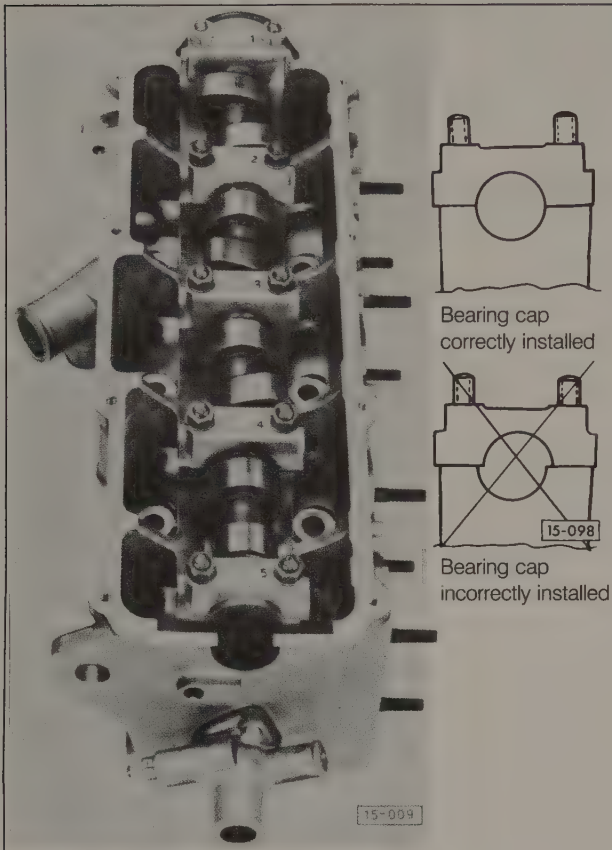

Fig. 4-12. Camshaft bearing caps. Diesel engine shown. Gasoline engines are similar, except that bearing cap no. 4 is not used.
5. To install, begin with bearing caps 2 and 5 on gasoline engines, or 2 and 4 on diesel engines. See Fig. 4-12. Install the washers and nuts, gradually tightening all four nuts until the camshaft is drawn down fully and evenly into the bearing saddles. Install the remaining bearing caps with washers and nuts. Torque all the nuts to 20 Nm (15 ft. lb.).